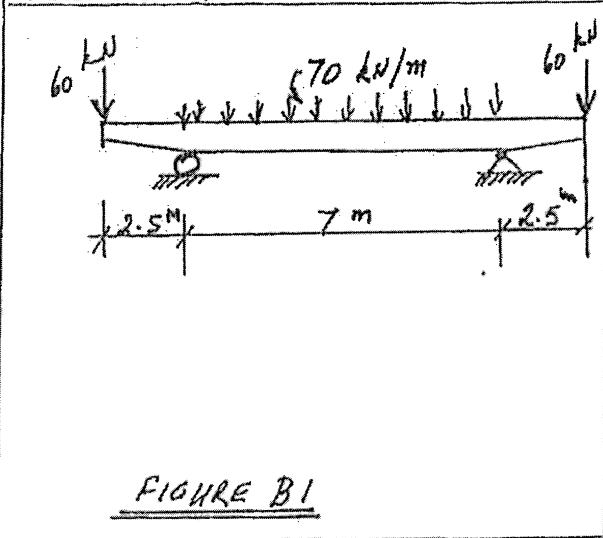

FIGURE B1
- B1. A reinforced concrete beam with two overhangs, is loaded as shown in Figure B1. Determine the dimensions of its rectangular cross-section and the steel reinforcements to satisfy moment and shear. Take into account the self-weight of the beam. (Use $f_c' = 35$ MPa and $f_y = 400$ MPa.)